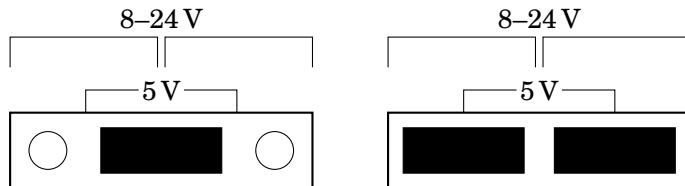

Figure 4.5: Input Voltage Select Jumpers for +5 V (left) and +8–24 V (right)
4. Configure the input voltage jumper J17. If the board will be provided with a regulated +5 V DC supply, place a single jumper across the middle pins (2–3). Otherwise, for input supply voltages from +8 V to +24 V DC, place two jumpers on pins 1–2 and 3–4, as shown in Figure 4.5. In the example being described here, we are getting +5 V so place a jumper across pins 2–3.